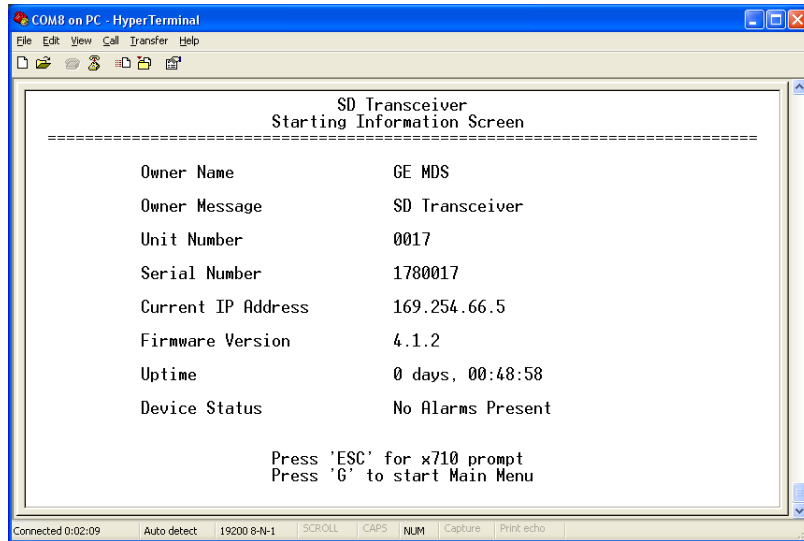

Figure 2. Starting Information Screen
6. After successful login, the Starting Information Screen appears (Figure 2), showing summary information about the radio. This screen is read-only, but some of the fields change based on user-supplied data at other menu screens.